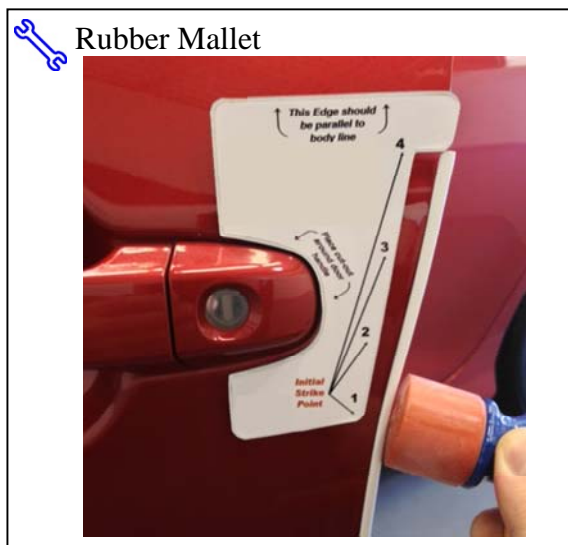

Fig. 2-5
(3) While holding the DEG in proper alignment with one hand, use the **soft side of the rubber mallet** to begin tapping the channel onto the door edge starting at Striking Point #1, working your way to the top of the DEG (Fig 2-5). Ensure the top of the DEG is fully engaged on the door edge before proceeding to next step.